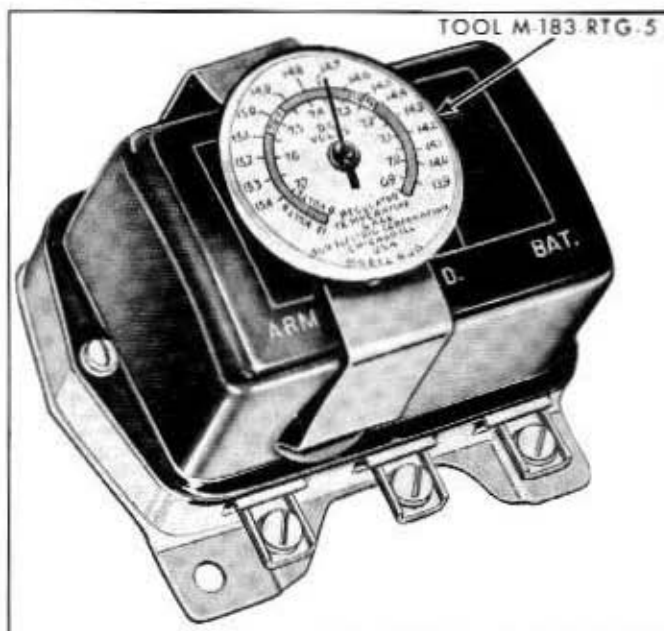

Fig. 10A-19—Temperature Gauge for Voltage Setting—(8M-7781)
6. Attach Regulator Temperature Gauge Tool M-183-RTG-5 (calibrated in volts) to regulator cover. See figure 10A-19.